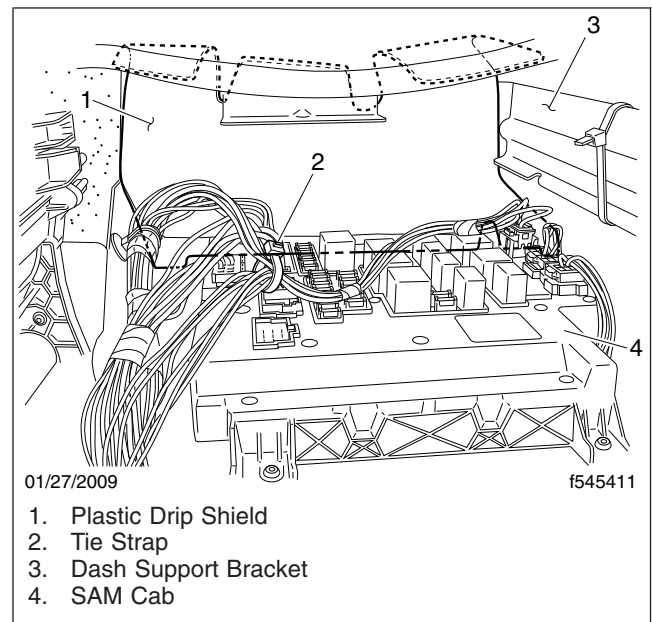

Fig. 2, Drip Shield Installation
4. Position the drip shield on the forward edge of the SAM cab. Make sure the lower edge is forward of the connector area of the SAM cab. See Fig. 2.